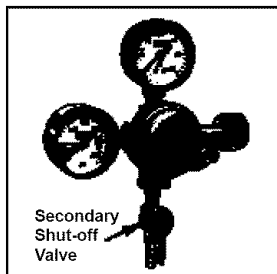

Fig. 11
20. Opening the CO2 Cylinder Main Valve: Before opening the main valve located on top of the CO2 cylinder. Make sure the "secondary" shut-off valve located on the lower stem pipe of the regulator is in the "closed" position. **See Fig. 11**